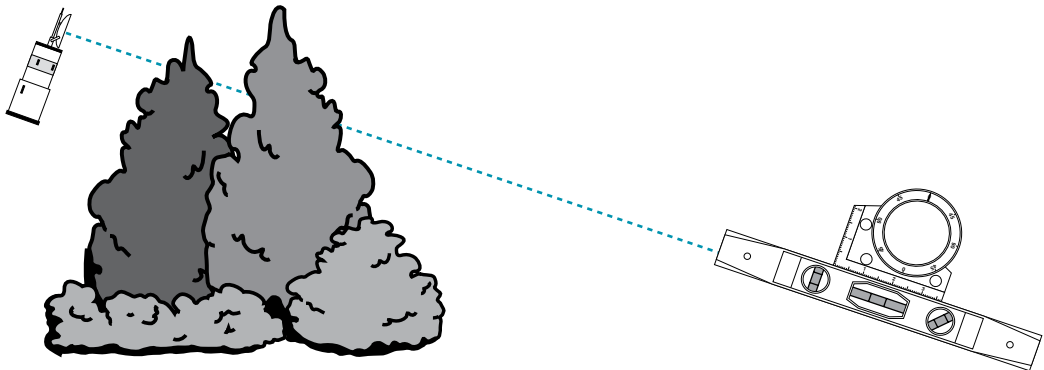

Figure 4-4. Verifying that there is a clear line-of-sight to the satellite
4. Using an angle finder and level or straight edge (see figure 4-3), verify that there is an unobstructed line-of-sight toward the satellite. To do this, align a straight edge along the azimuth bearing. Then, using the angle finder, lift the front of the straight edge to the elevation value indicated on the antenna pointing calculations window. Sight along the straight edge (see figure 4-4) to verify that there are no obstructions, (such as buildings or trees) blocking the view. Also, avoid installing the antenna next to electrical equipment such as air-conditioning units, because they can cause signal interference.